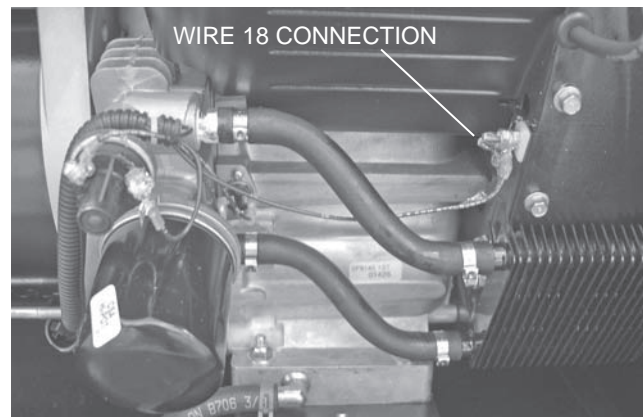
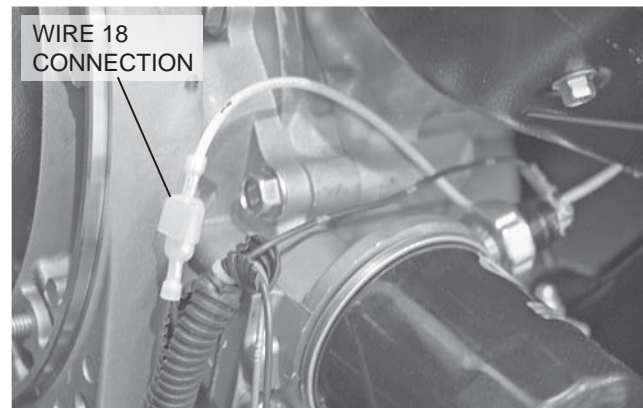

Figure 140. Wire 18 Connection 10-20kW Units
Figure 141. Wire 18 Connection 8kW Units
1. On V-twin generators, (refer to Figure 140) remove Wire 18 from the stud located above the oil cooler. On single cylinder generators, (refer to Figure 141) disconnect Wire 18 at the bullet connector.
- a. On V-twin generators, remove Wire 18 from the stud located above the oil cooler. See Figure 140.
- b. On single cylinder generators, disconnect Wire 18 at the bullet connector. See Figure 141.